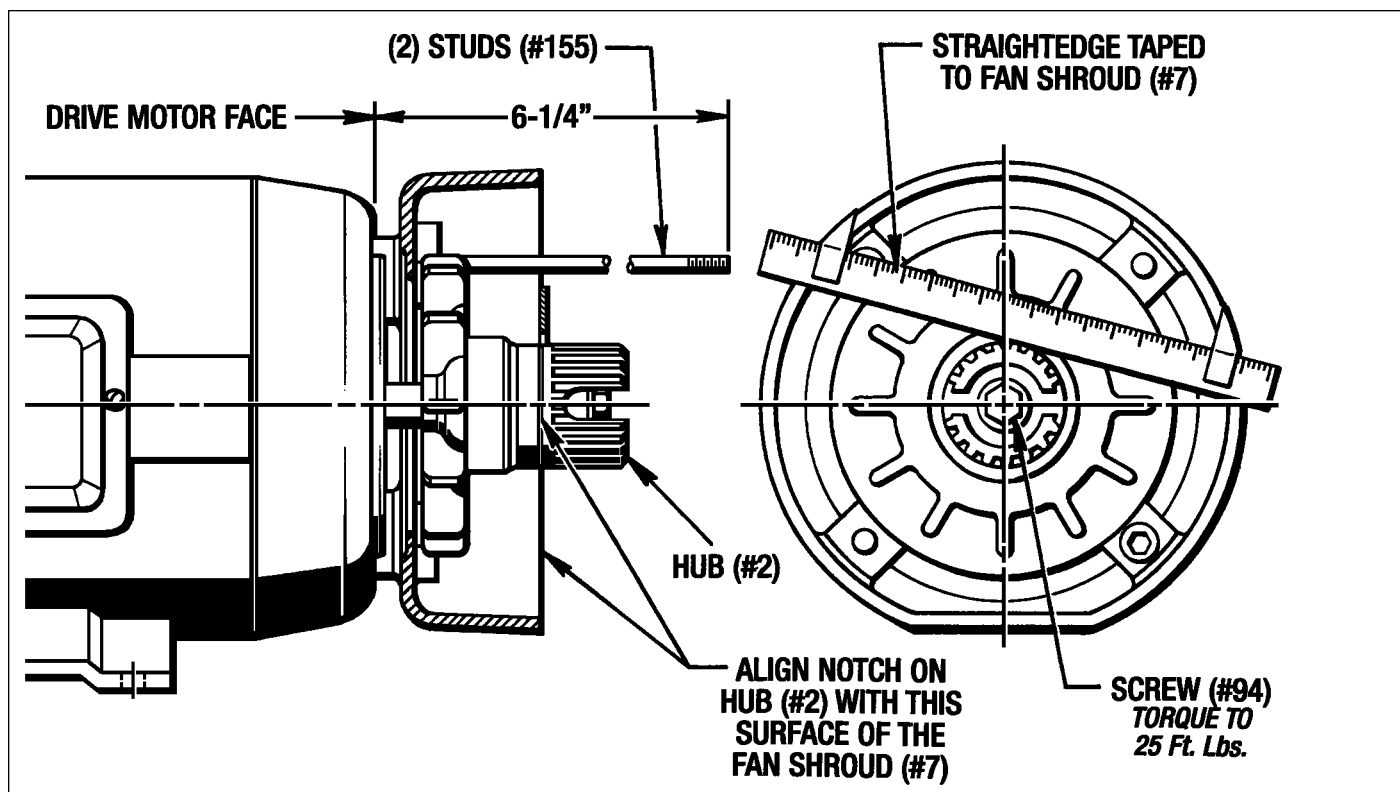

Figure 3.2 - Hub Alignment
If your *MagnaShear* Motor Brake is shipped pre-assembled to a drive motor, it is filled with oil and ready to run except for installing the Air Breather (#45) and electrical wiring. (See Figure 3.2 and 3.3 for Electrical Wiring Diagram.)
(See *Figures 3.2 and 8.1*)
1. Apply a little **Blue Loctite #242** to the (2) Studs (#155) and screw them into the drive motor leaving 6-1/4" exposed from the motor face. The (2) holes are indicated with a grey tone in *Figure 3.2* above. Let the Loctite set for approx. 5 minutes before proceeding any further.
2. Slide the Fan Shroud (#7) over the (2) extended Studs (#155) and attach to the motor face with (2) Lockwashers (#127) and (2) Screws (#149). **Torque to 25 Ft. Lbs.**
5. Tape a steel straightedge to the face of the Fan Shroud (#7) as shown in *Figure 3.2* above.
with the back edge of the straightedge as shown in Figure 3.2. This alignment should be $\pm 1/64$ ".